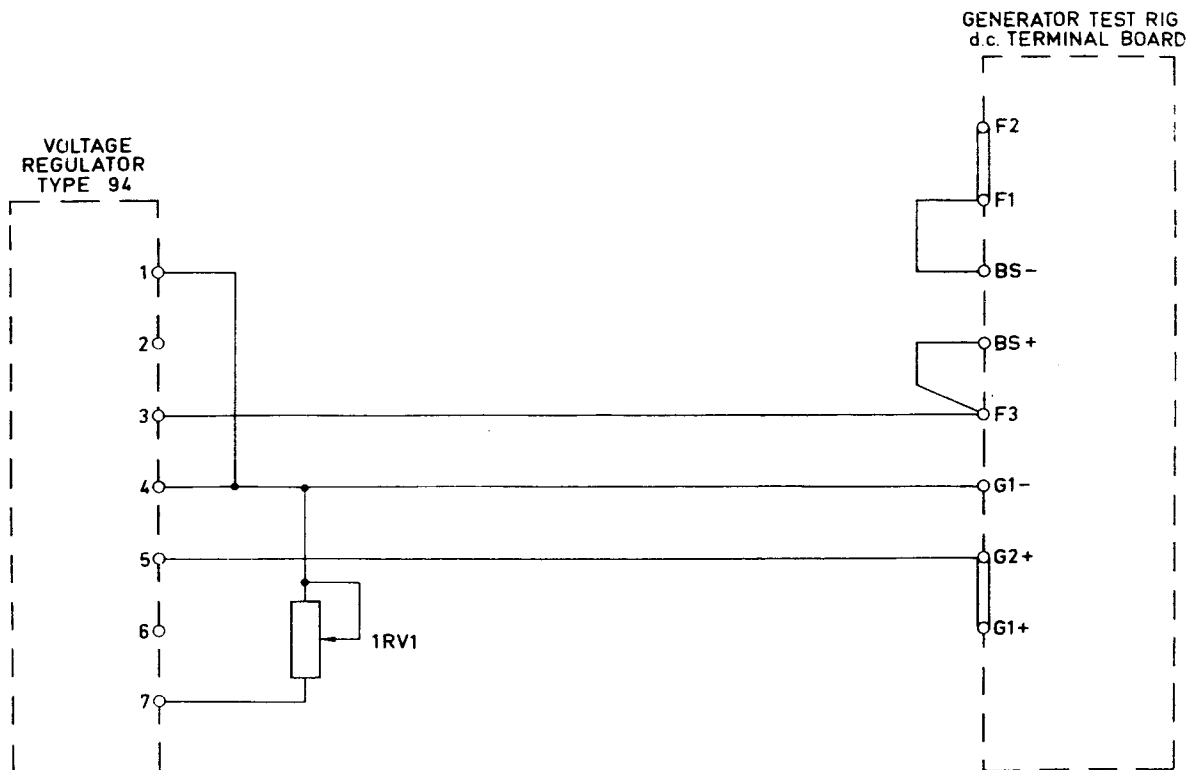

Fig.2 Connections to control console
11. (1) Connect a Type 94 regulator (ref. para. 3) to the test rig d.c. terminal board as shown in fig. 2.